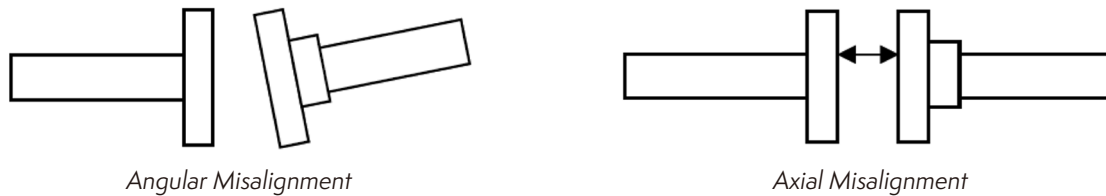

Figure 16 — Checking Angular and Axial Misalignment
6. Check angular and axial misalignment between the drive shaft and both the motor and gear drive couplings. (**Figure 16**)